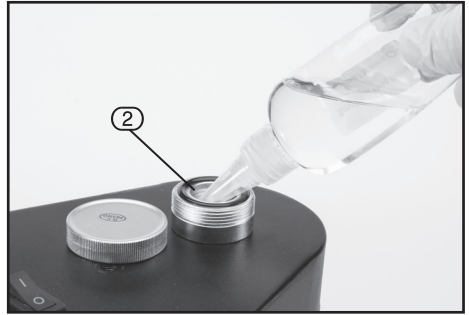

FIG.1
8.1 FILL/ADD SMOKE PRODUCING FLUID - FIG. 1